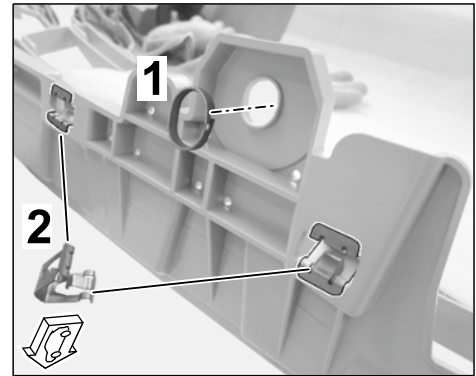

Figure 7
2.6.2 Install spacer ring (2 x) using pliers in tab on (centre) radiator grille at the top (⇒ *Figure 7*).
2.6.3 Install clamp 9.0 x 13.4/4.0 (6 x) in the edge of the (centre) radiator grille at the top (⇒ *Figure 7*).